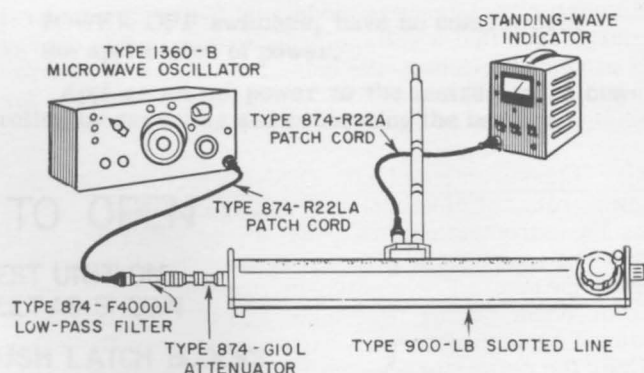

Figure 3-1. Type 1234 SWR Meter test setup for use with the GR 900-LB Precision Slotted Line.
A typical test setup for making microwave measurements using the 1234 SWR meter and a slotted line is shown in Figure 3-1. When standing-wave measurements are made, the test equipment is usually connected as shown. When attenuation measurements are made, this test setup can be modified so that the slotted line is not used. However, a detector is required in its place.
Such effects can be greatly reduced by the insertion of an attenuator or isolator between the signal source and the slotted line. If the insertion of the attenuator decreases the usable input from the signal source beyond tolerable limits, the oscillator tuning can be adjusted to compensate for the frequency shift. Under such circumstances, the amount of shift must be known for changes in loading conditions. However, outputs from signal sources are usually loosely coupled to their output circuits and the resultant frequency shifts are usually small. An attenuator such as the GR Type 874-G10L should be used between the signal source and the slotted line (refer to Figure 3-1).
- a. Connect a signal source, detector, as shown in Figure 3-1 and as described above.
- 1) METER SCALE switch (5) to 10-40 (SWR scale).
- 2) SOURCE switch (16) to 20k Ω .
- 3) Δ dB switch (14) to 0.
- 4) ATTENUATION dB switch (12) to 5.
- 5) FREQ kHz control (1) to midrange (1.0).
- 6) METER SPEED switch (2) to SLOW.
- 7) BANDWIDTH control (3) 3/4 ccw.
Before using the 1234 SWR meter for measurements, the test setup should be checked for ground currents. Connect the test setup for normal measurement conditions (Figure 3-1, for example) with the exception that the signal source r-f output connector should remain unconnected. Set the controls of the 1234 SWR meter for a sensitivity greater than that required to make the measurement and note the amount of deflection on the BOLO BIAS mA scale of the instrument.
a. Connect the signal source, detector, and the 1234 SWR meter as shown in Figure 3-1.
1) METER SCALE switch (5) to 10 - 40 SWR position.
2) SOURCE switch (16) to HIGH.
3) ATTENUATION dB switch (12) to 0.
4) Δ dB switch (14) to -5.
5) FREQ kHz control (1) to midrange.
6) METER SPEED switch (2) to SLOW.
7) BANDWIDTH control (3) 3/4 ccw.